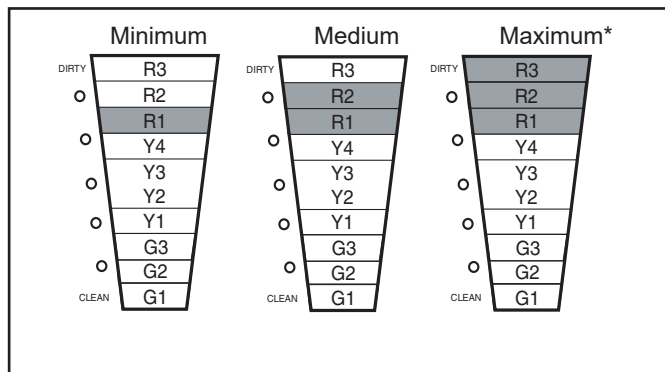

Figure 26 Red LED Power Level Settings
- The three RED LED's indicate the Power Level setting. The default is maximum. See Figure 26.
FIELD CHARGER POWER LEVEL SETTING (Figure 26)